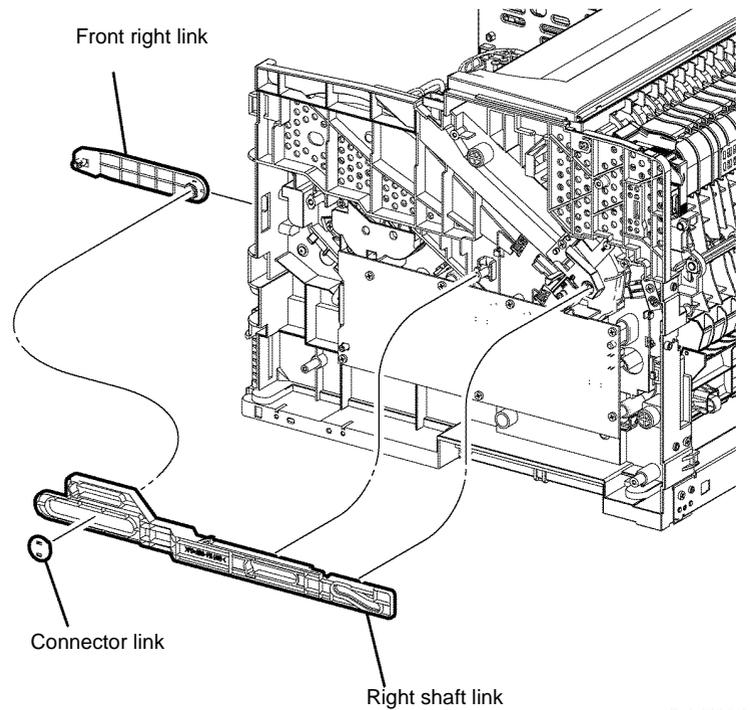

Figure 2 Right shaft link removal
- From the right shaft link, release the hook on the link connector, that fixes the right front link, then remove the link cover, Figure 2.
- Release the right shaft link from the hook on the printer, then remove the right shaft link, Figure 2.